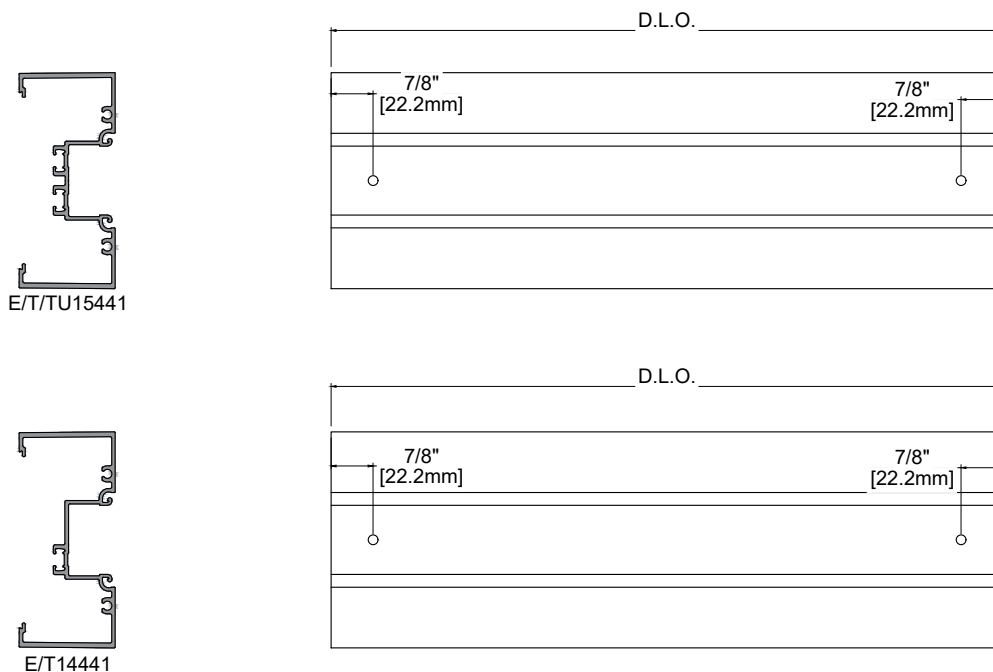
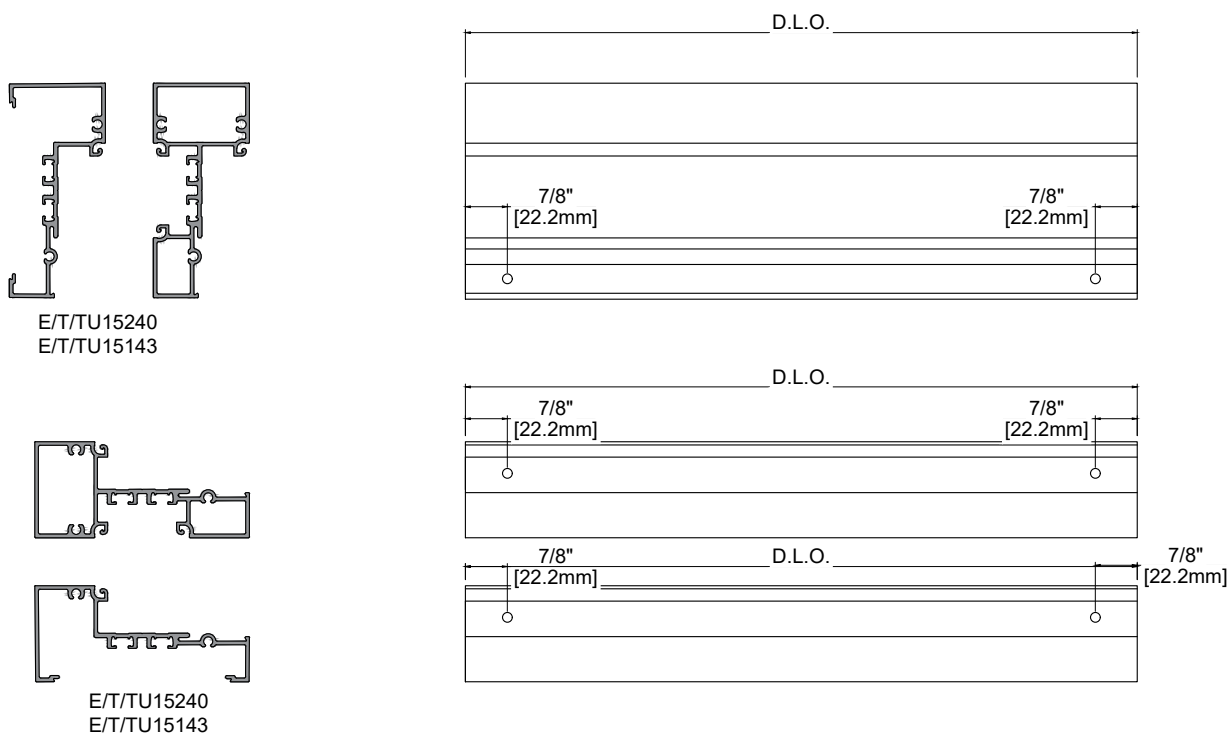

FIG. 1.
FIG. 2.
- A. For shear block assembly, drill .201"(5.105mm) dia. holes in the head, horizontal, and sill members as shown in **Fig. 1** & **Fig. 2** (Head members only to receive countersink hole for flat head screws).